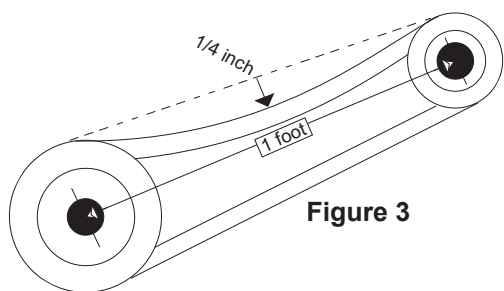

Figure 3
2. Adjust the motor back until proper tension is reached. For proper tension a deflection of approximately 1/4" per foot of center distance should be obtained by firmly pressing the belt. Refer to *Figure 3*.